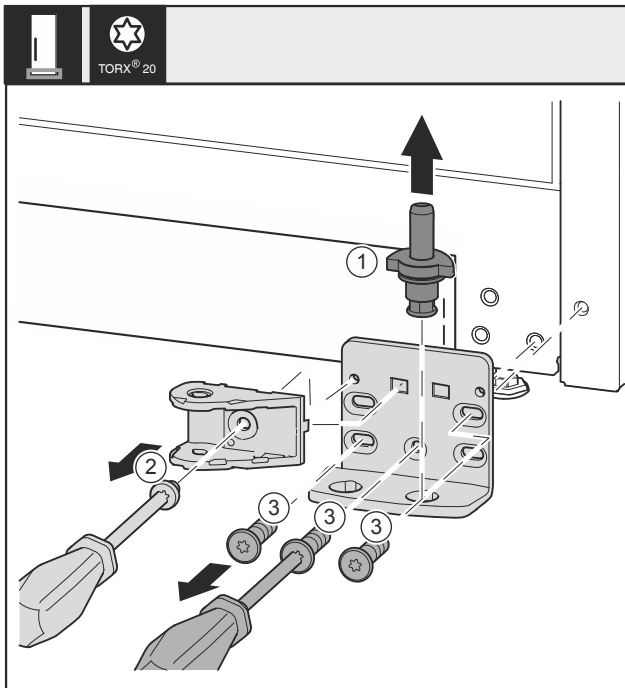

Fig. 33 \*
- Pull the bearing bolt Fig. 33 (1) out upwards completely.\*
- Use screwdriver to unscrew the screw Fig. 33 (2) and remove the closing damper connection.\*
- Use screwdriver to unscrew the screws Fig. 33 (3) and remove the swap bearing block.\*